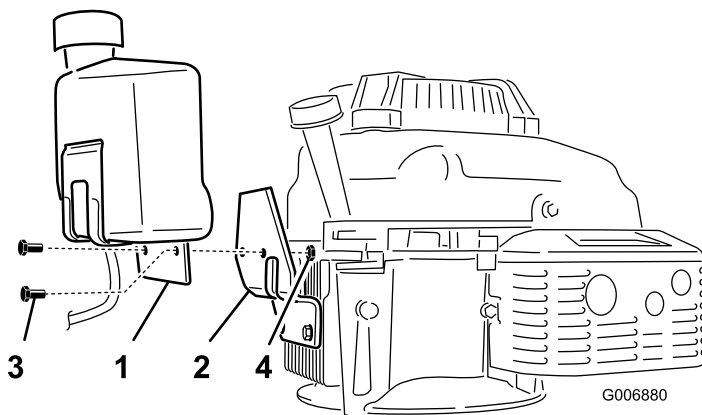

Figure 4
1. Align the holes in the fuel tank bracket with the holes in the adaptor bracket (Figure 4).
2. Install the fuel tank and bracket to the adaptor bracket with the 2 bolts (1/4 x 3/4 inch) and the 2 locknuts (1/4 inch) in the loose parts bag (Figure 4).